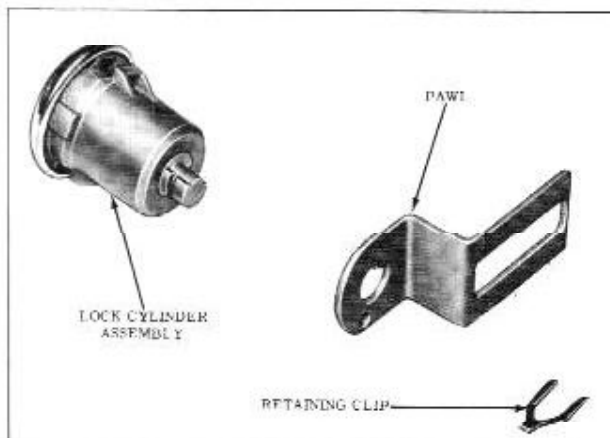

Fig. 15-21 Door Lock Cylinder Assembly
2. With a suitable tool, remove retainer and pawl. (Fig. 15-21)